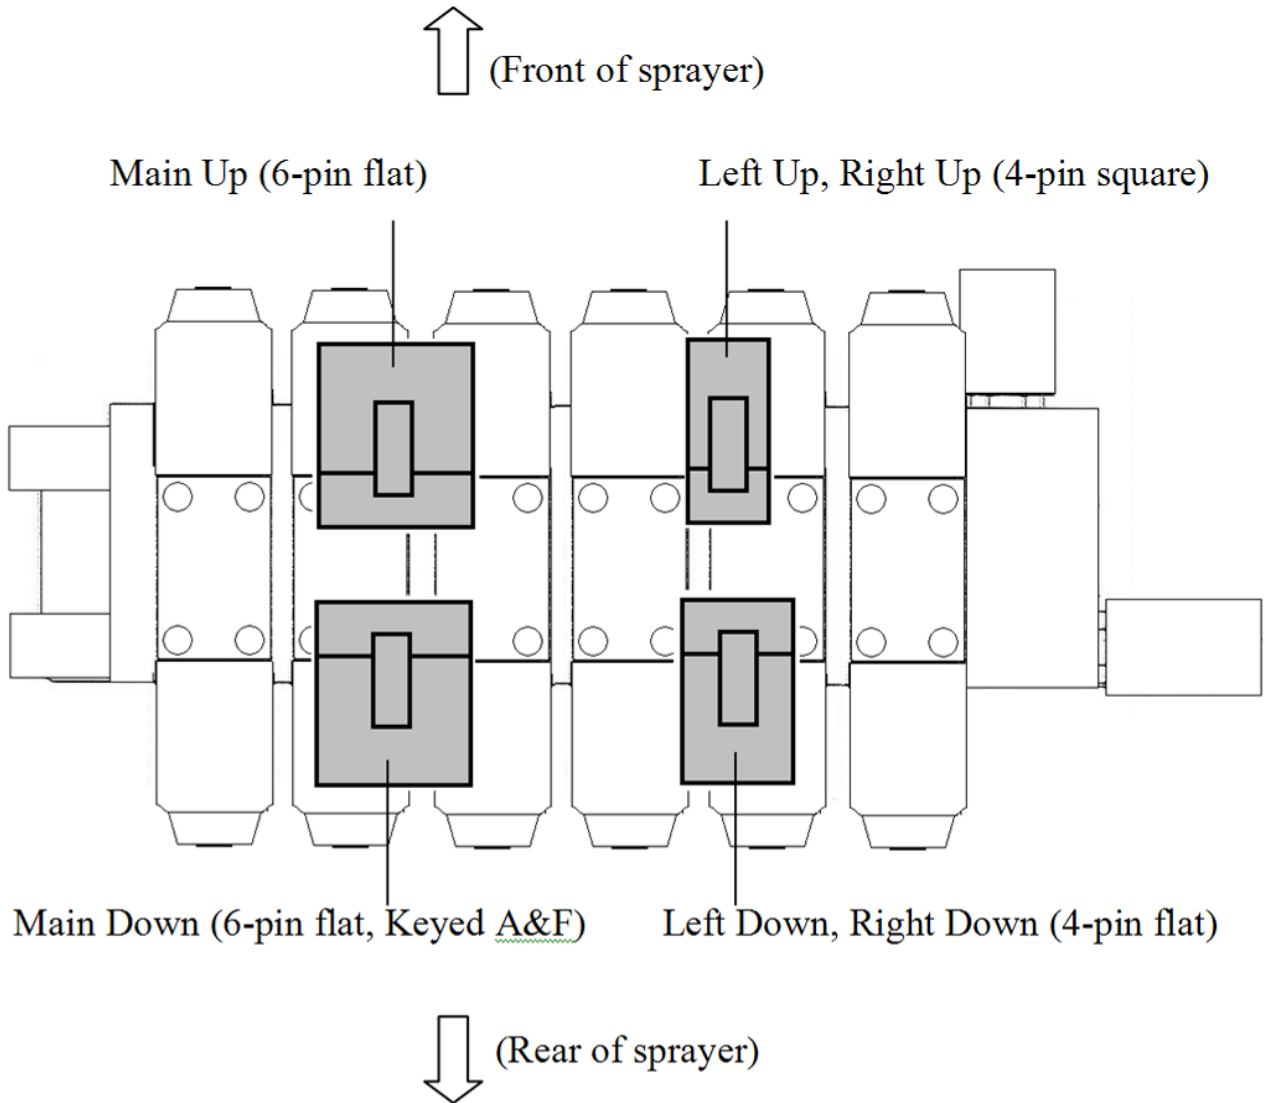

Figure 32: Early-Model John Deere Boom Valve Block (top view) with Connectors Labelled. (Valve may be different than illustrated.)
10. Connect the modified harness to the sprayer as indicated in **Figure 32**.